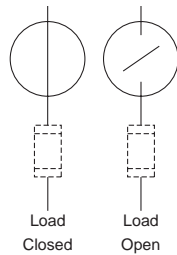
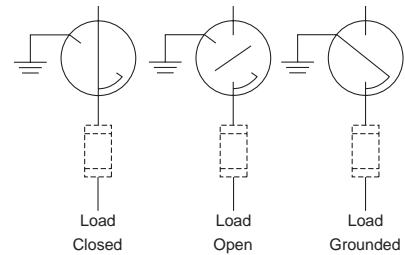
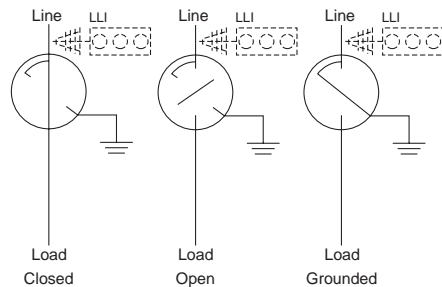

Figure 1: HVL/cc without Grounding Switch
Figure 2: HVL/cc with Grounding Switch Ground on Load Side
Figure 3: HVL/cc with Grounding Switch Ground on Line Side
The HVL/cc switch may be equipped with an internally interlocked grounding switch that is formed as an integral part of the main power switch. The grounding switch feature is optional and must be specified at the time of the order. The grounding switch is only effective on one side of the switch. The options are: (1) **no** grounding switch (Figure 1), (2) grounding switch located on the load side of the switch (Figure 2), or (3) grounding switch located on the line side of the switch (Figure 3).